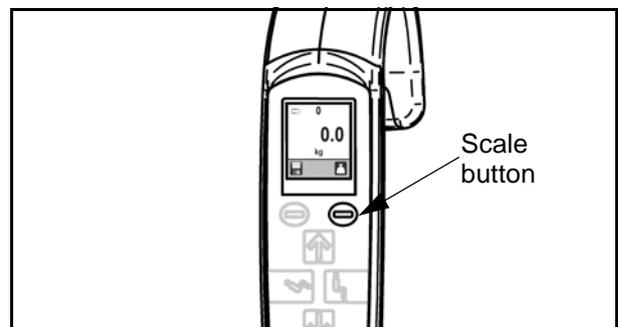

Fig. 64
1. Press the scale button to obtain a zero reading on the display (see Fig. 64).